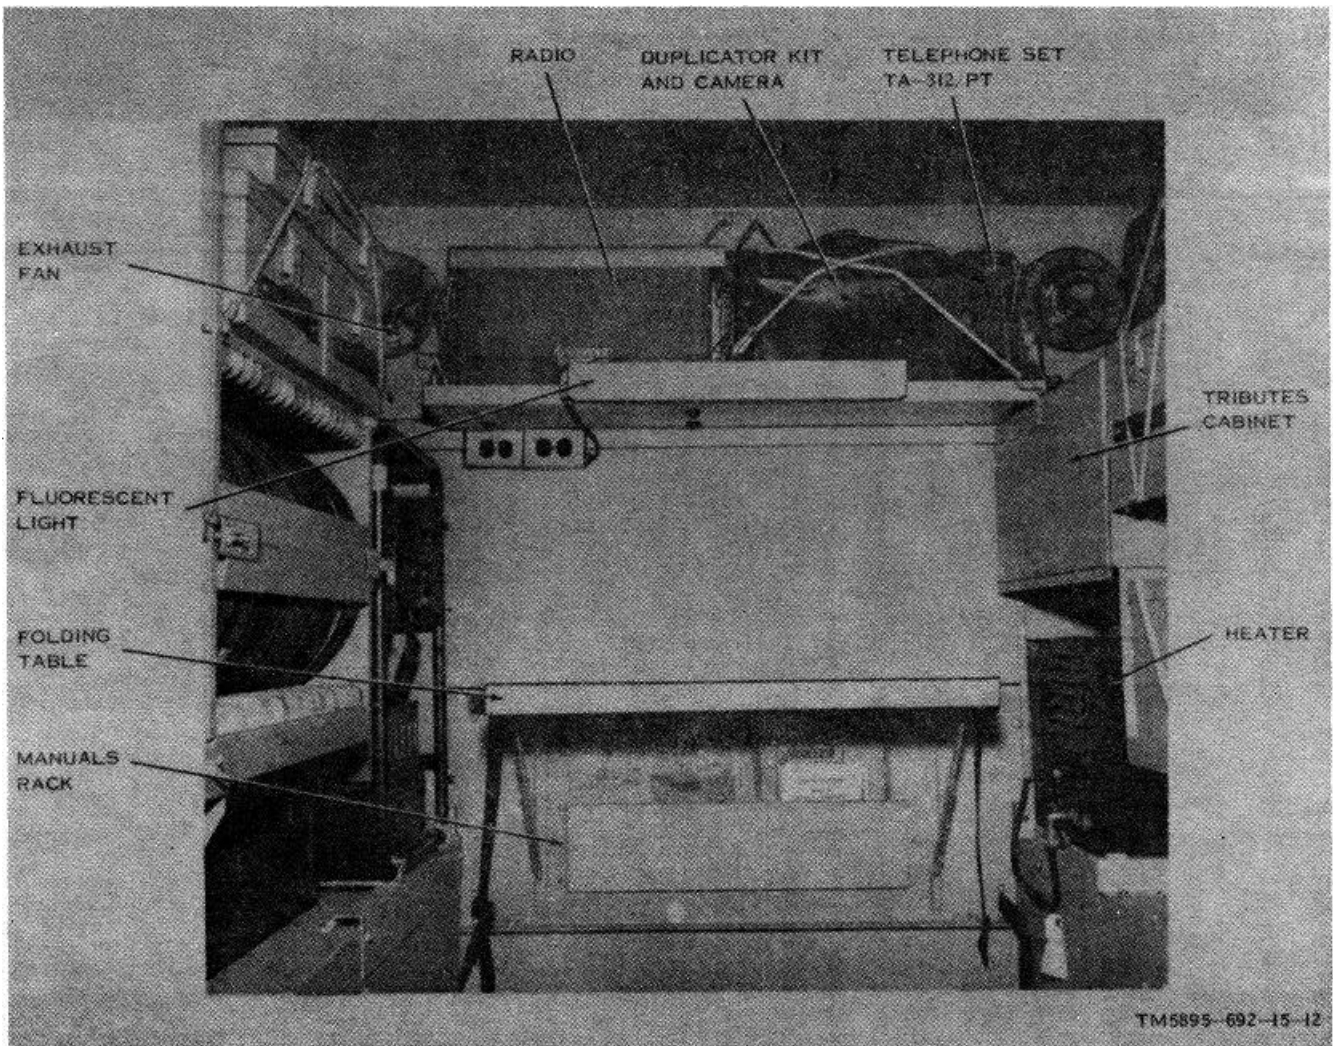

Figure 1-8. Inside shelter, front wall area.
(3) *Ventilation and dehumidifying.* Two exhaust fans, mounted on the front wall (fig. 1-1), provide ventilation. Dehumidifying is furnished by a heater (fig. 1-8).